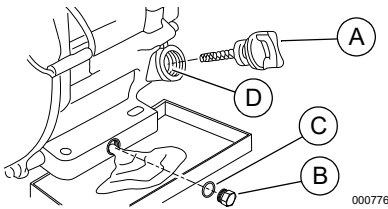

Figure 4-1. Changing Engine Oil
- See Figure 4-1. Remove oil fill cap (A).